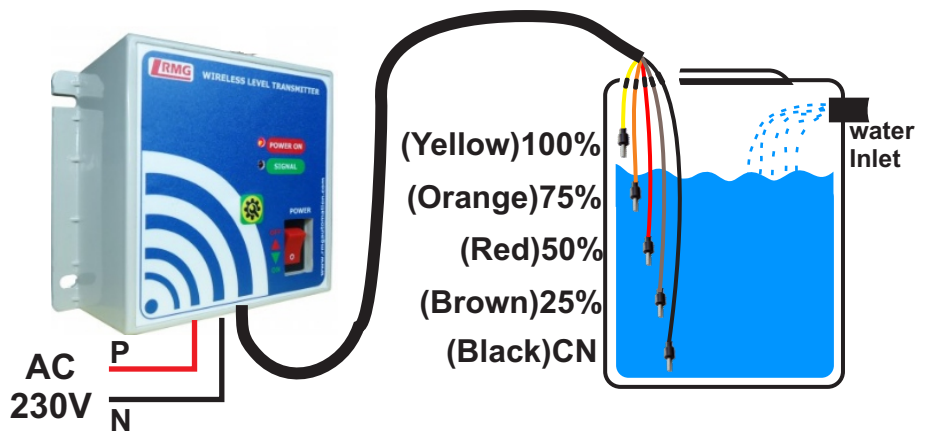

Figure 2: Transmitter
Step 4: Connect AC 230V (phase and neutral) to red and black wire of the transmitter unit. (Refer figure. 2).
Contact type sensor connection: Take the sensors and cut them according to the levels of the tank and join them with the sensors lines of transmitter as per color coding. (Refer figure 2).
Step 6: Immerse the sensors in the water tank and place at 25%, 50%, 75% and 100% levels. (Refer figure 2)